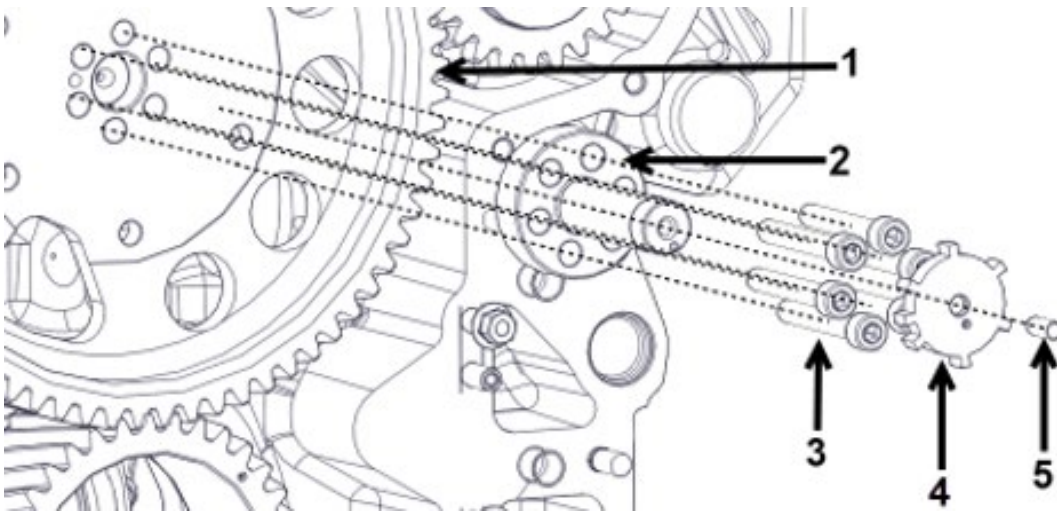

Figure 78.
2. Loosen the tightening bolt (Figure 78, Item 5) and remove the trigger wheel (Figure 78, Item 4).
3. Remove the bolts (Figure 78, Item 3) from the connecting shaft (Figure 78, Item 2) of the trigger wheel. Remove the connecting shaft, and camshaft gear (Figure 78, Item 1).